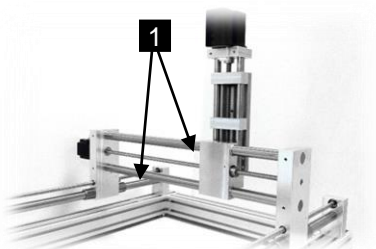

Figure 30: Linear guide the Y-axis
- 4 Grease the linear guides of the X-axis (Fig. 30/1) well using low-friction grease soaked cloth DIN 61650 or alternatively apply the grease with a suitable brush.